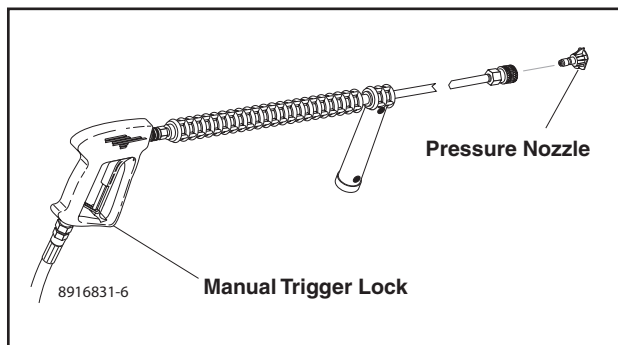

Figure 7 - Nozzle Installation/Manual Trigger Lock
6. Install the proper pressure nozzle on end of wand for your cleaning needs, refer to **Figure 7**.